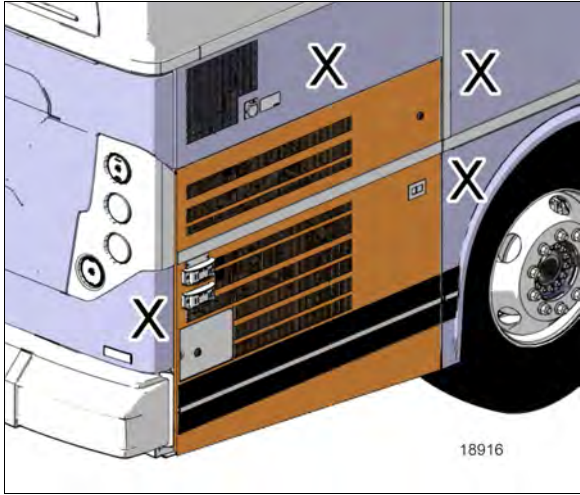

FIGURE 95: FLUSHED SURFACES
- Adjust the both rubber stoppers to make all the surfaces marked with an "X" in Figure 95 flush with the door surface within a tolerance of $\pm 1\text{mm}$.